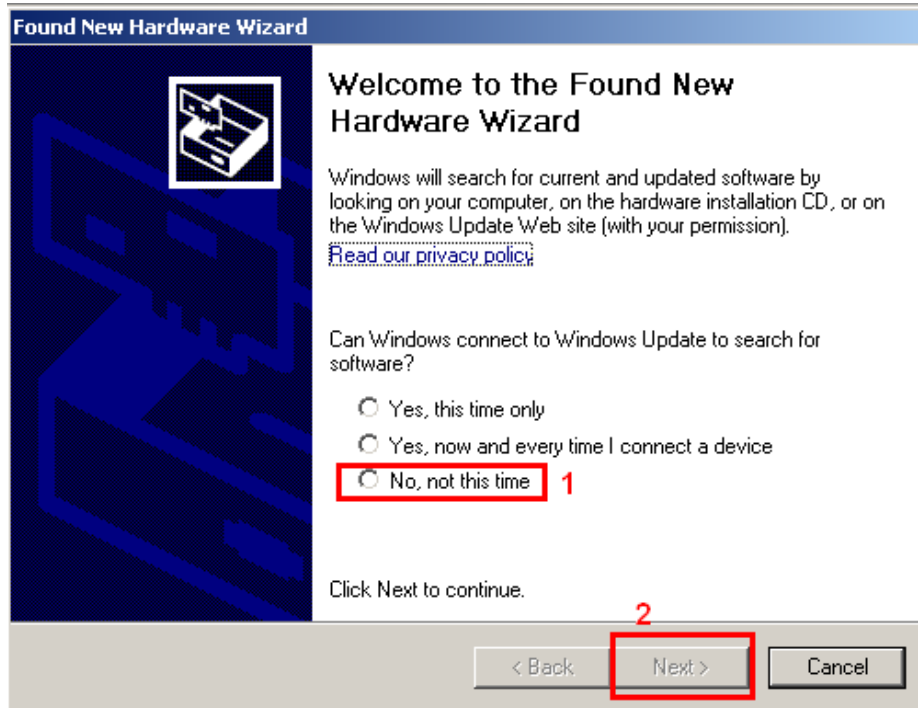

Fig. 1.3.1 Driver installation
1. When the FM-Xxx3 device is first time connected to PC the notification should pop up that new hardware was found and configuration window is shown (Fig. 1.3.1). Select „No, not this time“ and click „Next“ button.